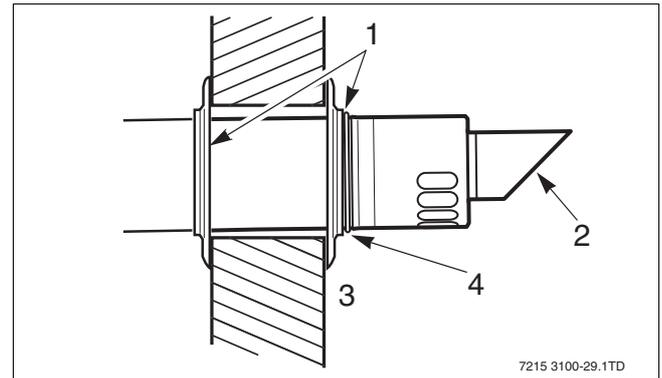

Fig. 29 Flue terminal position
- When just the terminal assembly is to be used, measure the length L from the raise ring back (→ fig. 29). The overall measurement for the outer duct is L minus 70 mm. The overall measurement for the inner duct is L minus 50 mm. Ensure that the cuts are made square and are free from burrs.